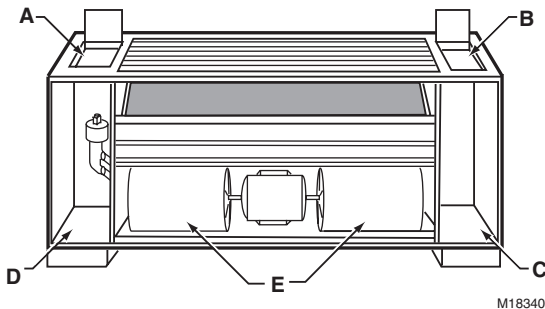

Fig. 3. Typical terminal unit mounting locations.
1. Install the return air thermostat in one of the end compartments or pockets of the unit. See Fig. 3. Any of the positions, points A, B, C or D, are acceptable.
4. Mount the bulb at either of the E points. See Fig. 3. Avoid kinks, dents or sharp bends in the 36 in. (914 mm) capillary.